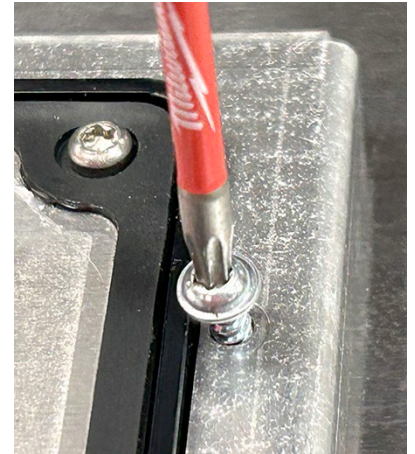

Figure 12
15. If using a power driver with a clutch, set to the lowest torque setting, to avoid stripping out the plastic screw boxes and attach the control frame to the bezel using the screws removed in step 10. Finish tightening the screws by hand (see Figure 12).